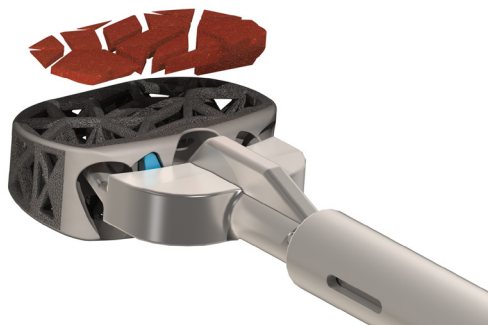

Figure 17
- ▲ Pack the implant with autologous and/or allogenic bone graft (Fig. 17). For best results, cut or morselize the bone graft into 1-2mm sized particles. Place the morselized bone into the top or bottom web structure (top and bottom are interchangeable).